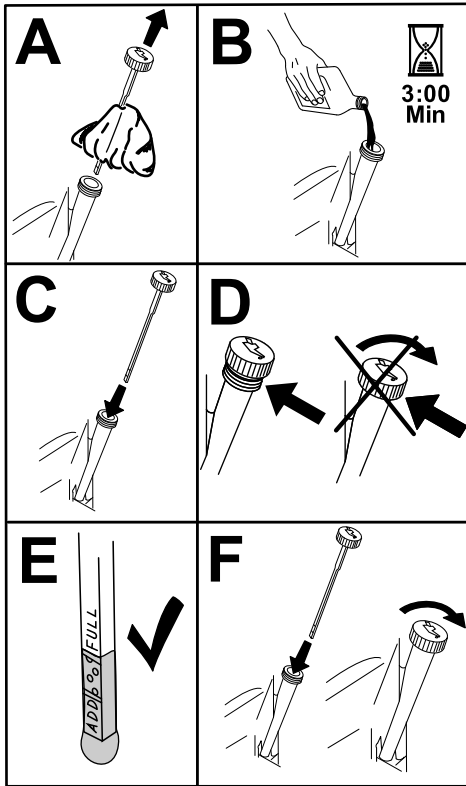

Figure 68
- Slowly pour approximately 80% of the specified oil into the filler tube and slowly add the additional oil to bring it to the Full mark (Figure 68).